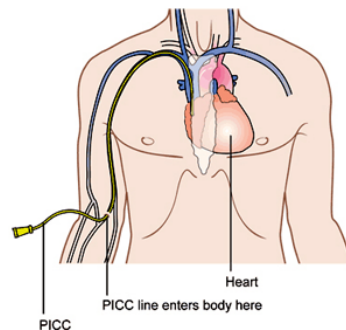

Figure 1- Needleless port
- B. If there is a needleless type port on the distal end of the catheter, perform the following: (*figure 1*)